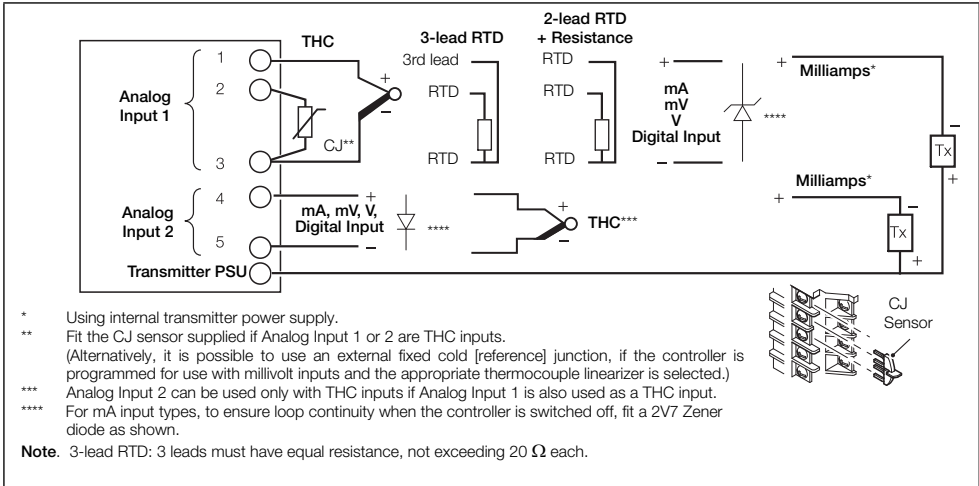
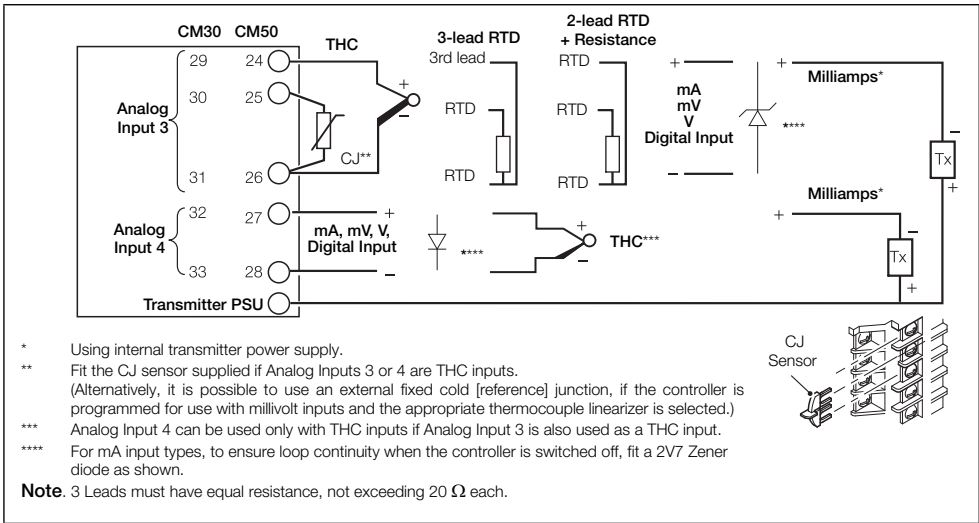

Fig. 4.16 Standard Analog Inputs (1 and 2) – CM30 and CM50 Controllers
Fig. 4.17 Optional Analog Inputs (3 and 4) – CM30 and CM50 Controllers
**Note.** Standard terminal connections for inputs 1 and 2 are shown in Fig. 4.16. Optional analog inputs 3 and 4 are shown in Fig. 4.17.